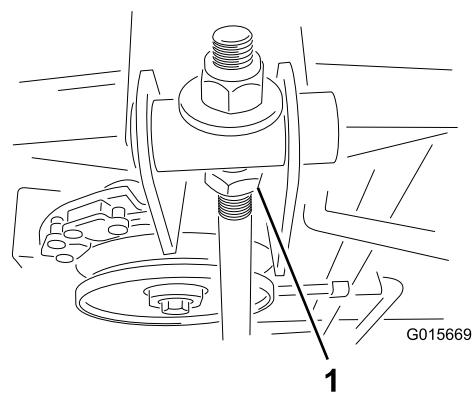

Figure 38
7. Loosen the jam nut (Figure 38).